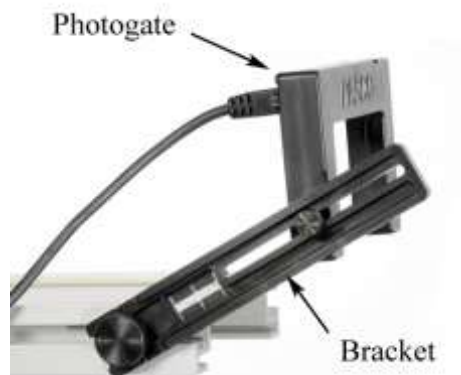

Figure 2: Reversed Bracket
3. Attach the third photogate bracket at the end near the elastic bumper, cantilevered out over the end of the track, as shown in Figure 2.